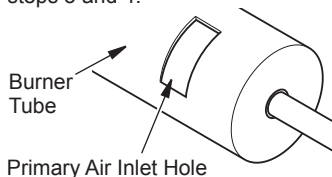

Figure 35 - Burner Tube
2. Inspect burner, pilot and primary air inlet holes on injector for dust and dirt (see Figure 35).